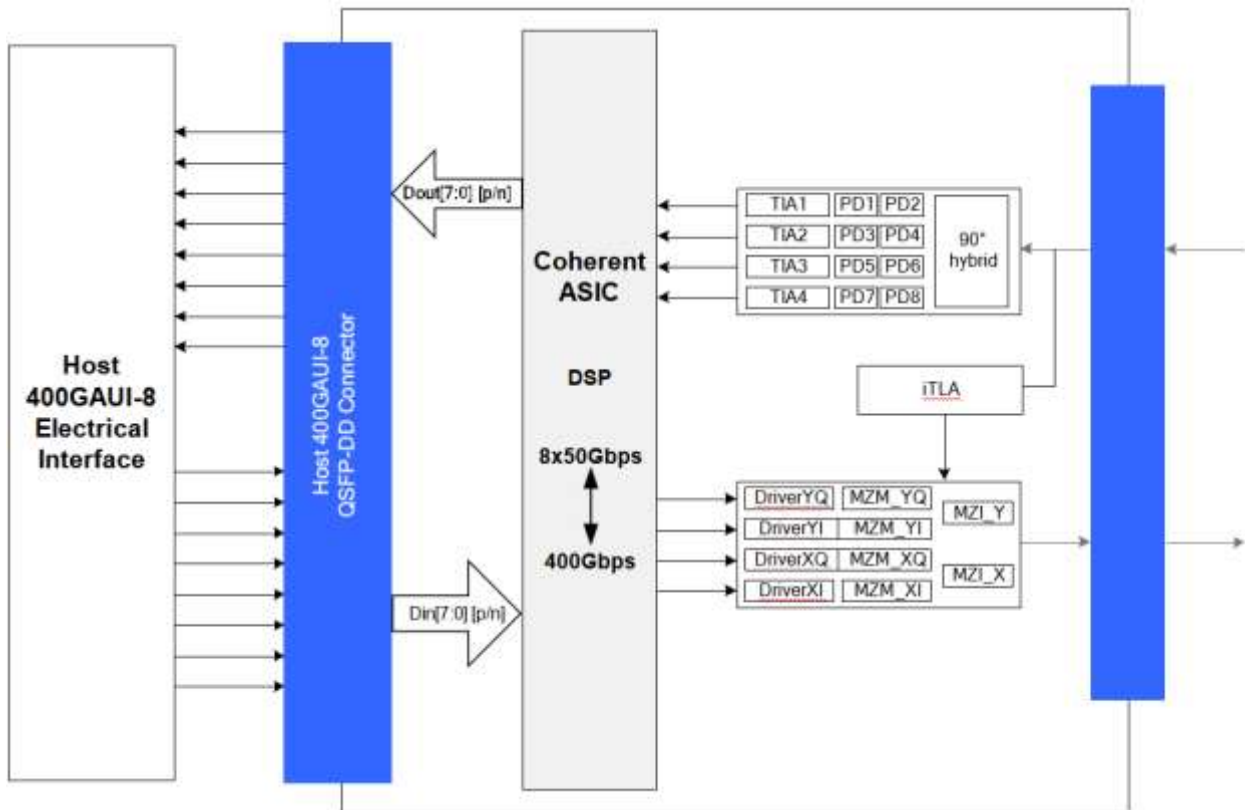

Figure 1: Transceiver Block Diagram
As shown in Figure 1, the transmitter path of the transceiver contains an 8x50Gbps 400GAUI-8 electrical input with equalization (EQ) block, integrated electrical multiplexer, iTLA, MZM and diagnostic monitor. The integrated electrical multiplexer converts 8 channels of 50 Gbps (PAM4) electrical input data to single channel of 400Gbps (DP-16QAM) optical signals.
As shown in Figure 1, the receiver path of the transceiver contains eight PIN photodiodes, four trans-impedance amplifiers (TIA), integrated de-multiplexer and 8x50G 400GAUI-8 compliant electrical output blocks. The integrated de-multiplexer converts single channel of 400Gbps (DP-16QAM) optical signals to 8 channels of 50Gbps (PAM4) electrical output data.